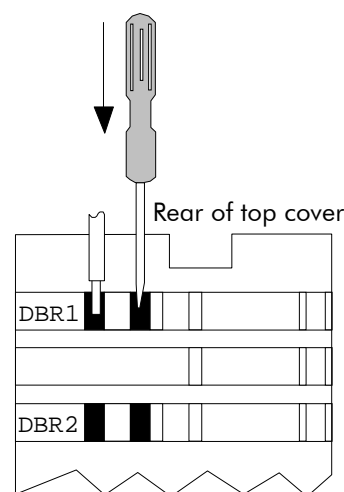

Figure 4.2
- Insert a flat-bladed screwdriver (size 3.5 mm max.) inside the hole as shown in figure 4.2.